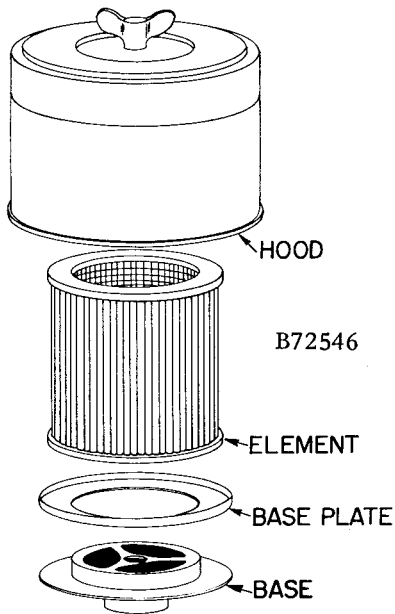

FIGURE 1-4. - DRY-TYPE AIR FILTER
**AIR FILTER** (Figure 1-4) furnished as standard equipment is a washable element dry type filter. The air filter must receive proper maintenance if maximum service is to be obtained from the unit. Establishing adequate and timely filter service is **MOST IMPORTANT**. When the outside surface of the element appears to be evenly coated with dirt, it should be cleaned as follows: